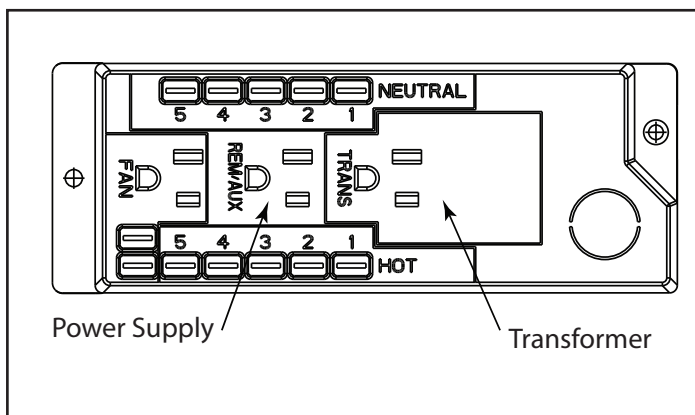

Figure 5.4. Power Supply
- Plug in transformer and power supply to junction box. See Figure 5.4.